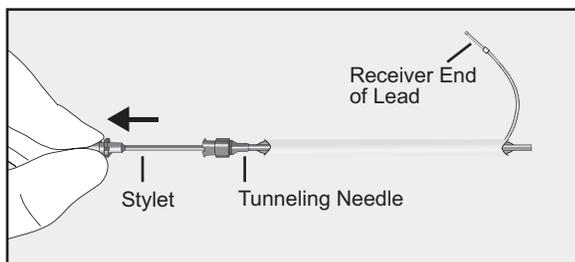

Figure 29: Withdraw the Tunneling Needle Stylet
3. Identify an insertion point for the Tunneling Needle. To reduce the risk of the receiver becoming exposed, the insertion point must be farther from the intended termination site for the receiver, preferably ≥ 2 cm but no more than 11.5 cm from the first incision site (see Figure 29).
7. Withdraw the Tunneling Needle Stylet, leaving the needle in place (see Figure 29).